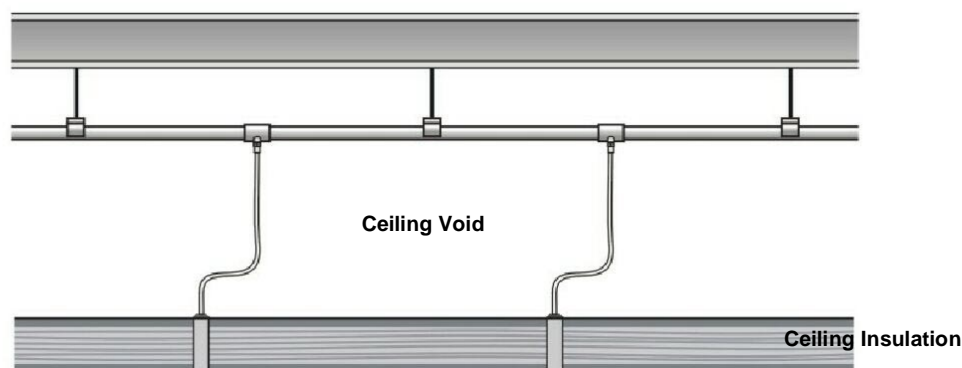

Figure 8 Capillary Sampling
- Capillary sampling is an alternative method to ceiling pipework sampling. The sampling pipe is located in the ceiling space and a capillary sampling tube is connected from the pipe through the ceiling insulation. Air is then directly sampled from the cold store area. Refer to Figure 8.
- In comparison, capillary sampling requires a penetration per sampling point. Refer to Figure 8.